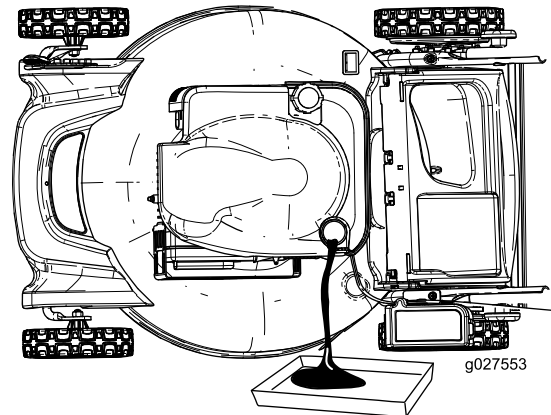

Figure 24
7. Tip the machine onto its side, with the oil-fill tube down, to drain the used oil through the oil-fill tube into the oil-drain pan (Figure 24).